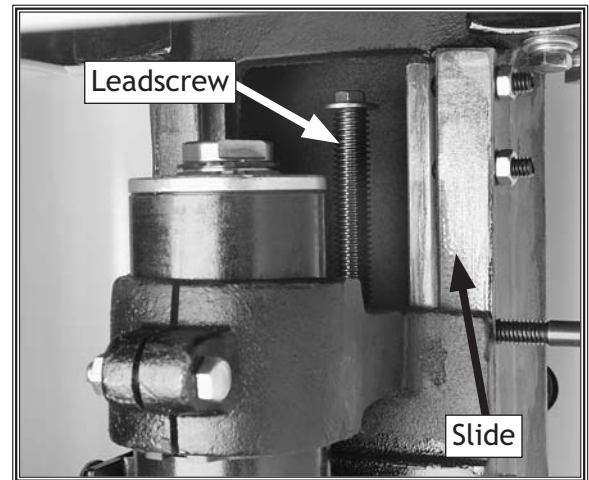

Figure 49. Spindle slide and leadscrew.
2. Use the spindle height handwheel to lower the spindle all the way, then access the elevation assembly through the rear of the cabinet (see **Figure 49**).